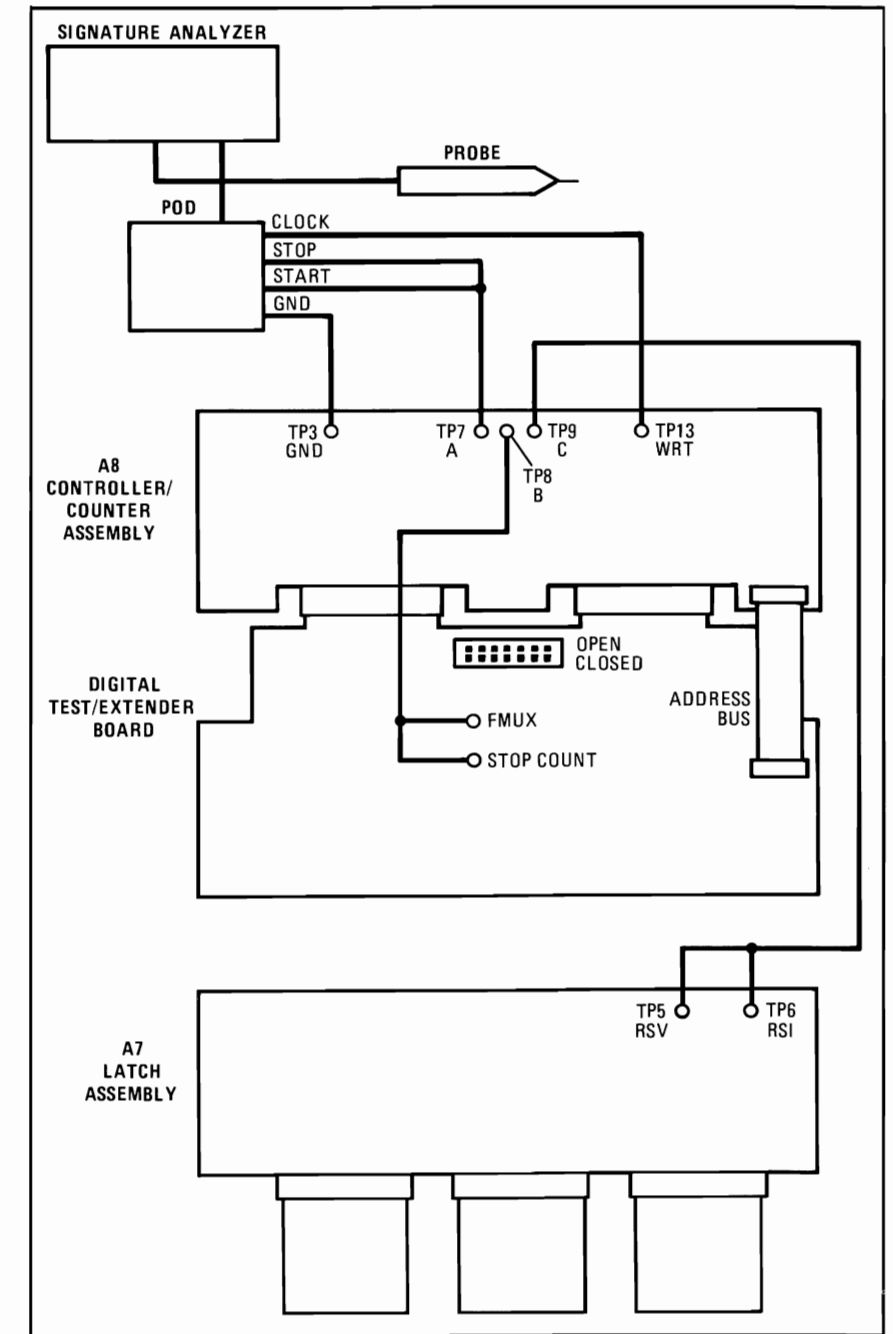

Figure 8-90. Latch Assembly Troubleshooting Setup
2. Interconnect the Controller/Counter Assembly, the Latch Assembly, the extender boards, and the signature analyzer as shown in Figure 8-90. Set the switches on the digital test/extender board to the open position.